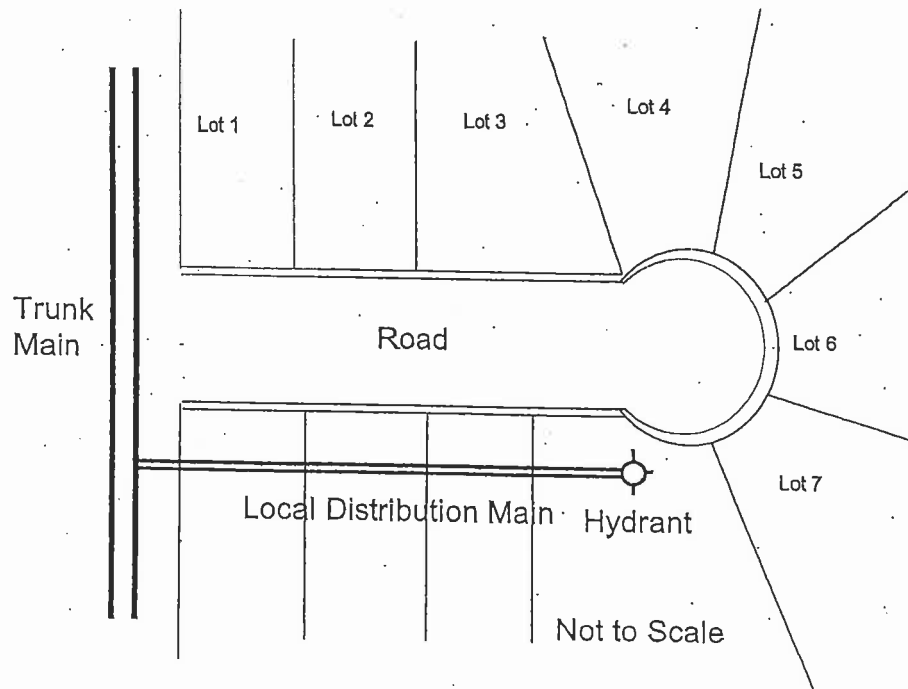

Figure 1. Trunk and local distribution mains in cul-de-sac.
1. A local distribution main is being designed in a cul-de-sac section of a subdivision (Figure 1). The distribution main has a Hazen-Williams 'C' factor of 150, an internal diameter of 152 mm and a length of 100 m. The hydraulic grade line (HGL) in the trunk main is fixed at 70 m and the centerline pipe elevation at the hydrant is 5 m.